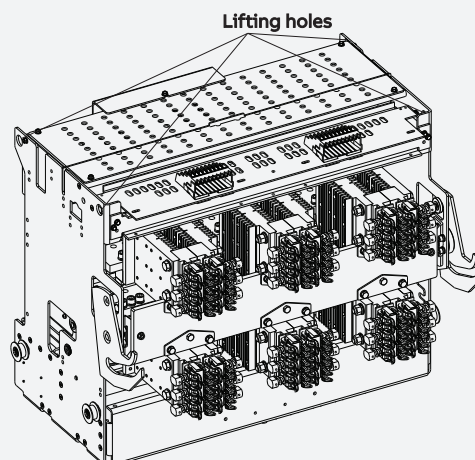

Figure 45
- a. It is best to use ABB Lifting Bar Part number 2TSE431931R1000 for 3200-4000A and 2TSE431932R1000 for 5000A and a suitable hoist to lift from above as shown in Figure 45. (These lifting bars have been tested to 200% of their 700 lb ratings.)